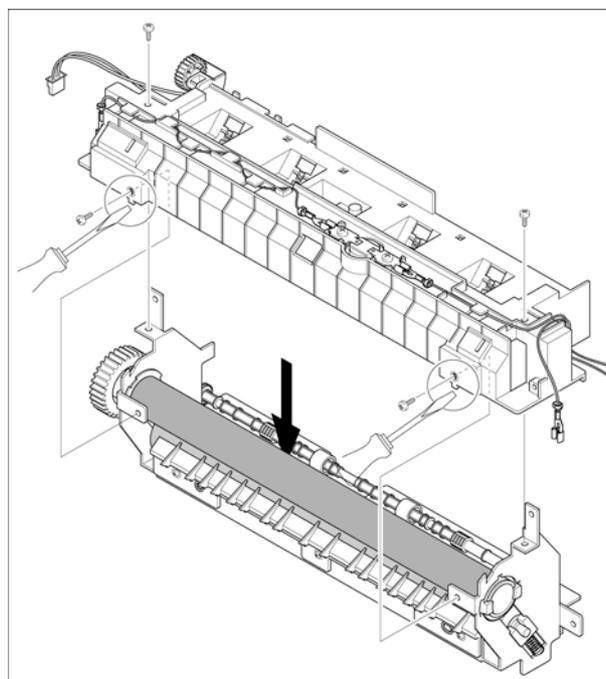

Figure 6
7. Remove 4 screws. Use a flat-bladed screwdriver to unhook the 2 clips, then remove the Cover-M-Fuser, Figure 6.